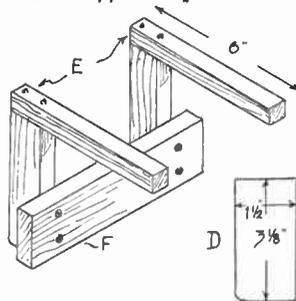
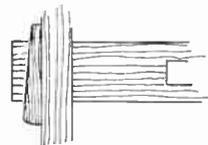

Fig. 2—Details of the fence
Fig. 3—How the wedges are fixed
For the fence, shown in isometric projection in Fig. 2, a couple of  $\frac{3}{4}$  in. square holes must be cut through the body. Mark the position of these accurately, and first bore out  $\frac{3}{4}$  in. holes straight through with a centre bit, and chop out the corners with a chisel. On the other edges of these holes cut sloping slots for wedges. These can be  $\frac{1}{2}$  in. by  $\frac{1}{2}$  in. on the front, and  $\frac{1}{2}$  in. square at the back. For them provide a pair of wedges, as in detail Fig. 3.
From Fig. 2 the shape of the fence will be made clear. Cut the slides (E)  $\frac{3}{4}$  in. square and 6 ins. long. Plane to size very accurately and glasspaper as may be
Next prepare two pieces 4ins. by 3ins. by 1/2 in. by marking across the top of each piece a line 1in. down from the top as in Fig. 2. In the exact centre of each line a hole must be drilled; in one piece 3/16 in. to take the handle of the drill, in the other 1/4 in. to hold the drill next the chuck.
Piece (A) with 3/16 in. hole, is glued and screwed to the left hand end of the base, and piece (B) (1/4 in. hole) on the base at a distance of 4 1/2 ins. from piece (A) (see Fig. 3). Now two strips 1/2 in. by 1/2 in. are glued and screwed to the edges of the base from piece (B) to the end of the base to raise the upper bed 1/2 in. from the base.